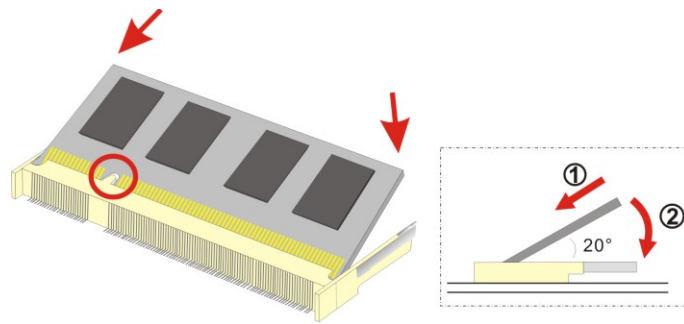

Figure 4-1: SO-DIMM Installation
To install a SO-DIMM, please follow the steps below and refer to **Figure 4-1**.
- Step 3:** Insert the SO-DIMM. Push the memory in at a 20° angle. (See **Figure 4-1**)
- Step 4:** Seat the SO-DIMM. Gently push downwards and the arms clip into place. (See **Figure 4-1**).